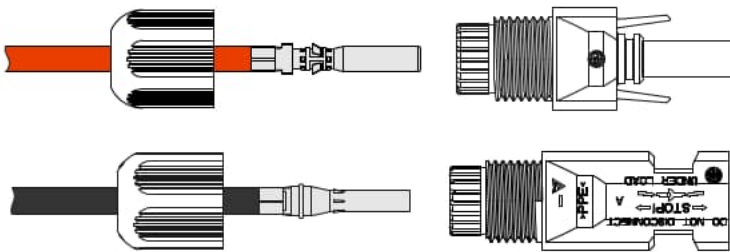

Figure3-17 Fasten the metal terminal
- Step 3 Insert the positive wire and negative wire into corresponding insulation crust respectively. If there has a click sound, it means that the wire have been inserted properly, as shown in Figure3-17.